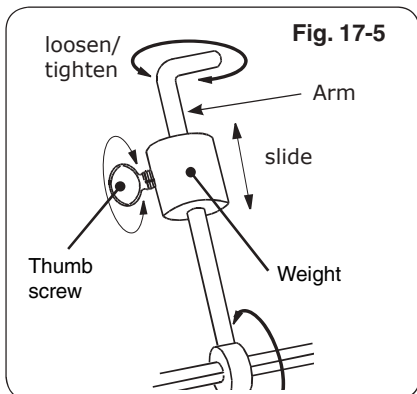
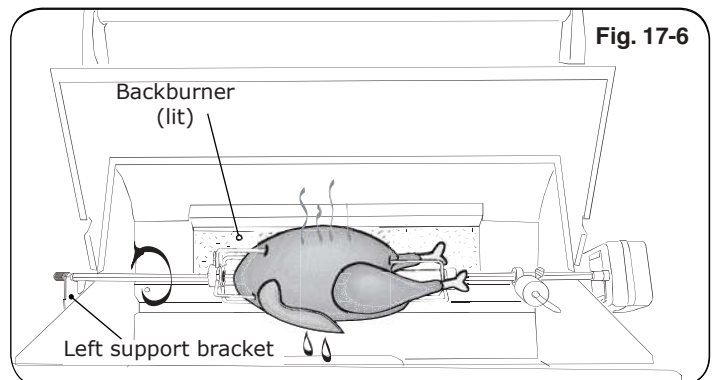

Fig. 17-5
Fig. 17-6
9. Slide the counterbalance weight up or down the arm until the rod rotates most evenly then tighten thumb screw (Fig. 17-5 and Fig. 17-6).